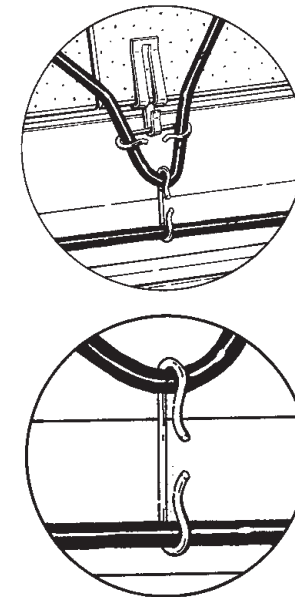

Figure 19. Attaching clips in gutters
• Route the cable in the gutter along a treated area of roofline. Using a spacer, fasten the gutter cable to the bottom of each drip loop you have formed. See Figure 19. Keep the cable in the gutter tight and off the bottom of the gutter to prevent heat loss.